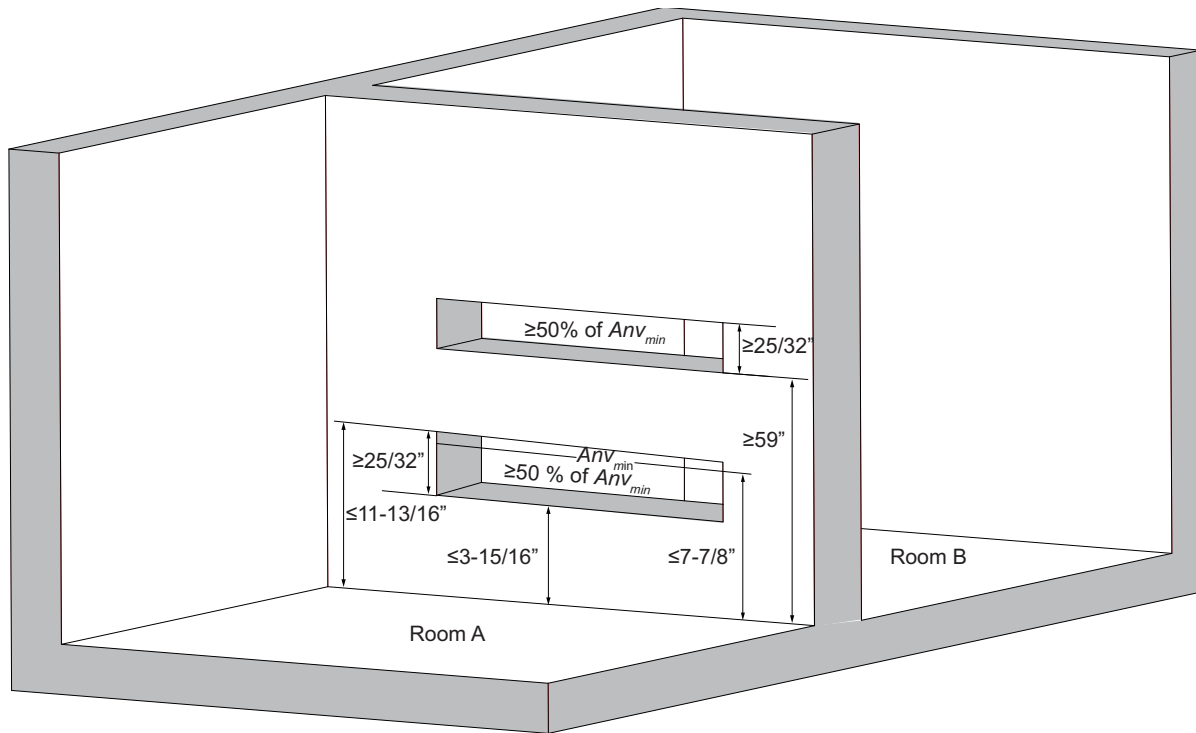

Fig. 3 —Opening Conditions for Connected Rooms
- For determination of room area (A) when used to calculate the refrigerant charge limit, the following shall apply.
- The room area (A) shall be defined as the room area enclosed by the projection to the base of the walls, partitions and doors of the space in which the appliance is installed.
- The area of the connected rooms, on the same floor connected by permanent opening in the walls and/or doors between occupied spaces, including gaps between the wall and the floor, can be considered a single room when determining compliance to A_{min} provided all of the following conditions are met as Figure 3.